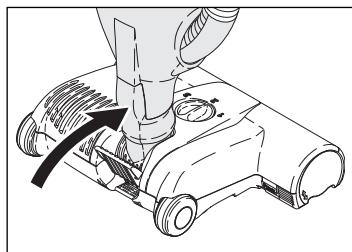
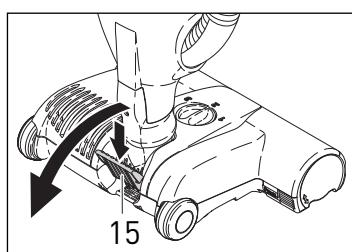
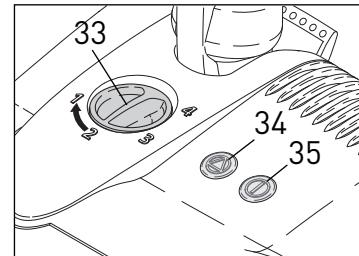

Figure 6
Figure 7
Figure 11
A. When the power head is switched on with the swivel neck (figure 6) in the upright locked position, the brush roller will not spin and no lights will show. To release the power head from the upright locked position, press down on the foot pedal (15, figure 7) and lower the swivel neck into the normal operating position. If the brush roller does not start, push the on/off button (35, figure 11). The brush roller will then start spinning and the on/off light on the power head will illuminate in green. If the on/off button is OFF, the light will illuminate yellow. The handle can be lowered to a horizontal position useful for vacuuming under beds.
B. To clean delicate or hard floor surfaces with straight suction only, the power head is equipped with an on/off switch (35, figure 11). When this switch is used to turn off the brush roller, the green light will change to yellow, indicating to the user that the brush roller is not turning. Pushing the button again will turn on the brush roller and the light will turn green.
NOTE: The brush roller is off and stopped only when the machine is in an upright position and the handle is completely locked in place, or when the hose handle is removed from the side of the vacuum. If you have the machine at an angle, the brush roller will spin. Leaving the machine in a stationary position for an extended period of time while the brush roller is spinning may cause damage to your floor or carpet. You may also switch off the brush roller by pressing the on/off switch (35, figure 11) on the top of the power head.
Brush Obstruction Light & Auto Shut Off - Figure 11
The Brush Height Adjustment Feature - Figure 11
Indicator Lights - Figure 11
By pushing the foot pedal (figure 7) and lowering the handle, you activate the power head and the brush begins spinning. Failure to use the foot pedal will cause lasting damage to the machine. The electronic brush control constantly monitors the status of the brush, communicating the status through the lights on top.
(35, figure 11)
(34, figure 11)